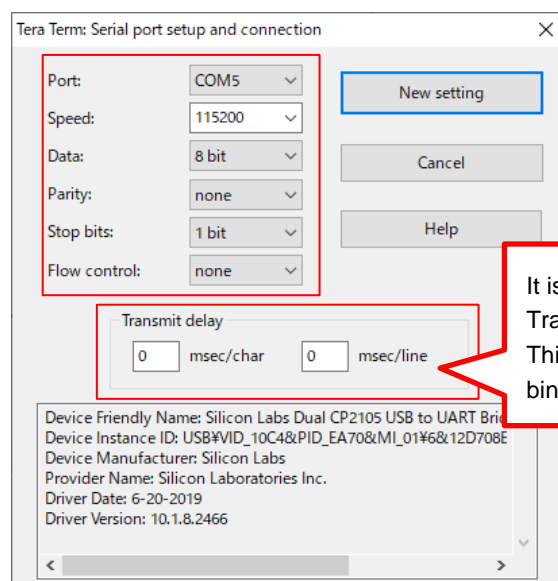

Figure 4-2. Terminal software setting
- (2) Start the terminal software on your PC. Figure 4-2 shows the setting of the terminal software.
- (3) Start the new connection. Choose "USB Serial Port".